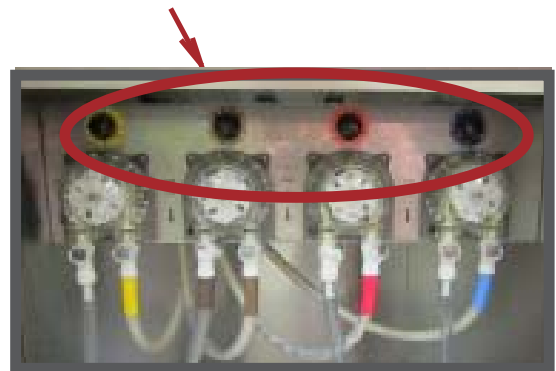

Figure 11-9
6. Open the cabinet door to allow access to the four flavor adjustment potentiometers located above the mix pumps. See figure 11-9. From left to right they are banana, chocolate, strawberry and special flavor.